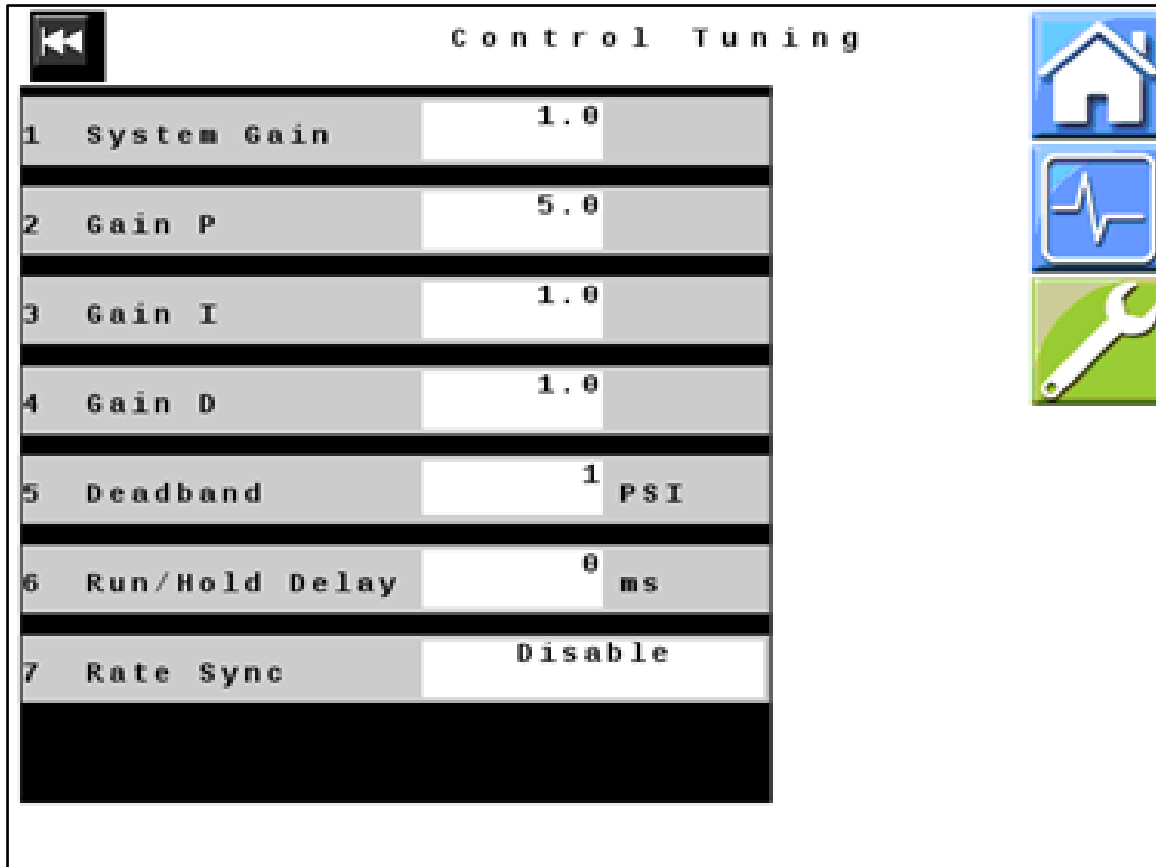

Figure 15 — Control Tuning
24. *Figure 15:* Verify that all values displayed on your unit match those shown here. Change values if necessary.